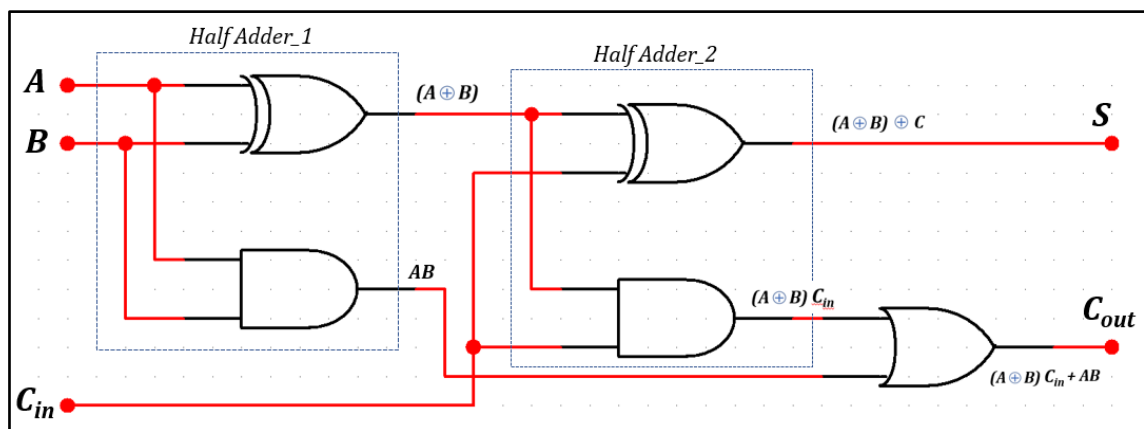

Fig. 5.1: Logic gate connection diagram for full adder.
FULL ADDER: A full adder adds binary numbers and accounts for values carried in as well as out. A one-bit full adder adds three one-bit numbers, often written as A , B and C_{in} ; A and B are the operands, and C_{in} is a bit carried in (from a past addition). The circuit produces two output bits which are sum, typically represented by the bit S and carry, which is represented by C_{out} . (See Fig. 5.1)
- Make connections on bread board as per Fig. 5.1 to realise full adder.